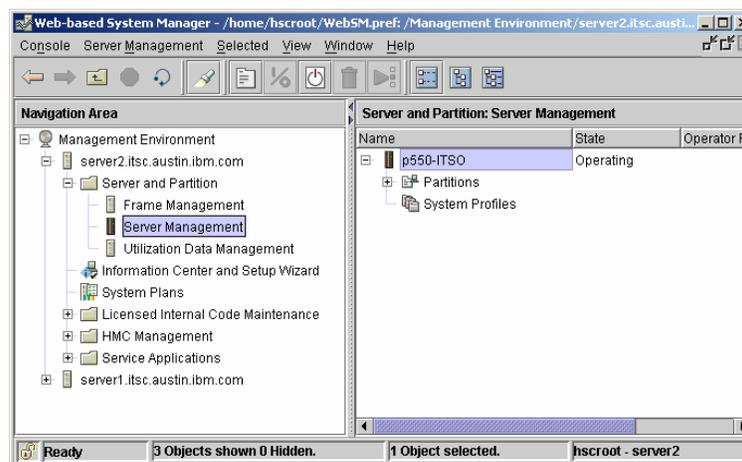

Figure 3-1 Hardware Management Console view
1. Figure 3-1 shows the HMC with four attached managed system. For our basic VIOS configuration setup, we will use the managed system named P550\_ITSO.